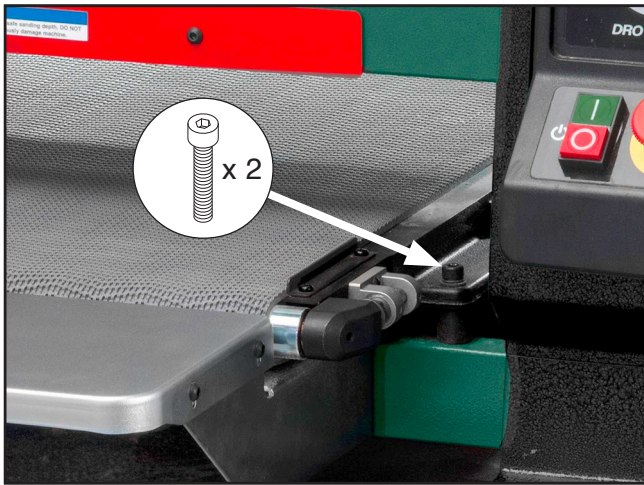

Figure 57. Location of cap screws.
8. Loosen, but do not remove, (2) cap screws to right of conveyor table (see **Figure 57**).